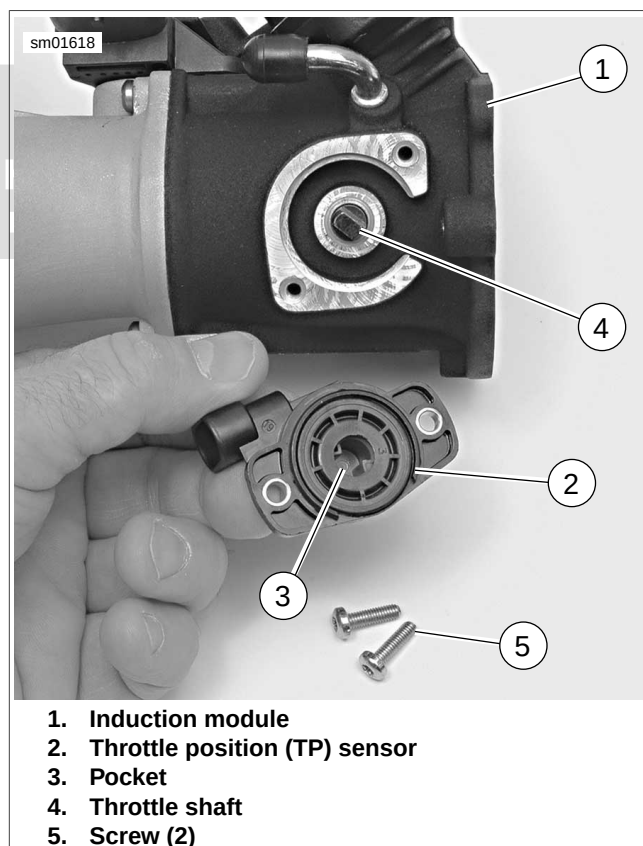

Figure 4-29. Throttle Position (TP) Sensor Installation (XL Models)
1. See Figure 4-29. Fit pocket (3) of TP sensor (2) over throttle shaft (4). Orient TP sensor correctly and line up mounting holes in sensor with holes in body of induction module (1).
2. Make sure TP sensor body is flush against mounting boss on induction module body. Install two screws (5) to fasten sensor to induction module. Tighten screws to 35 in-lbs (4.0 Nm).